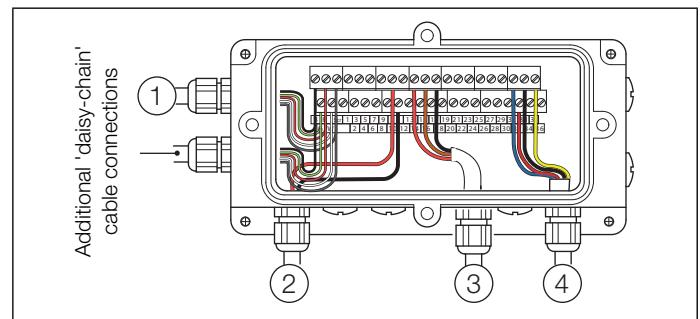

Fig. 4.3 Wet section PCB cable entries
Referring to Fig. 4.3 and Table 4.1 for terminal connection details:
3. Loosen cable gland (A) at the wet-section PCB housing (B).
4. Disconnect the flowmeter cable (C) from wet-section PCB terminals 13 (red, +ve), 15 (brown, GND) and 17 (black –ve) – see Fig. 4.3, page 3 and remove cable.
5. Depress the QD coupling collar (D) on QD coupling (E) and lift the top QD coupling (E) complete with sample outlet tube (F) away from the flowmeter (G).
6. Depress the QD coupling collar (J) on QD coupling (K) and lift the flowmeter away.
7. Fit the replacement flowmeter into the QD coupling (K) and refit QD coupling (E) to the flowmeter outlet.
8. Pass the flowmeter cable through the cable gland (A) at the wet-section PCB housing (B) and terminal connections to PCB terminals 13 (red, +ve), 15 (brown, GND) and 17 (black –ve) – see Fig. 4.3, page 3.
10. Ensure the sample outlet tube (F) is located correctly in the tundish assembly (I).
6. Disconnect the drain valve cable from the terminal block – see Fig. 4.3, page 3 and discard the cable.
7. Feed the replacement drain valve cable through the cable gland and make connections to the black, red, screen, green and white PCB wet-section terminals (see Fig. 4.3, page 3) and at the transmitter (see OI/ADS550-EN).
8. Connect the drain valve clip-on cable connector (C) to the end of the drain valve coil housing.